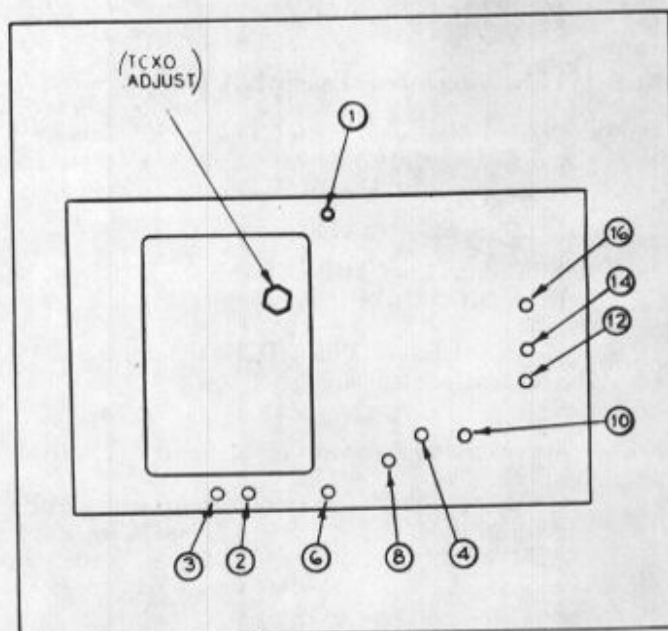

Figure 2-33. Trimmer Locations, TCXO/IF Assembly, A1A5
- f. Turn instrument on and quickly (within 60 sec) adjust trimmer for 10 MHz \pm the offset indicated on the TCXO housing. (Figure 2-33 is displayed for reference.)